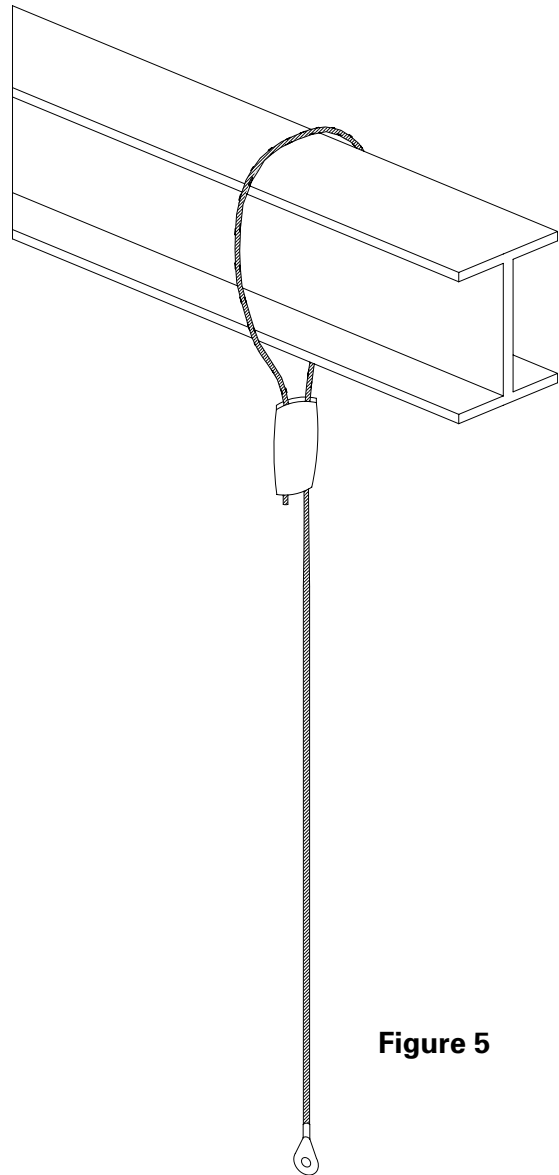

Figure 5
4. Adjust the cable length in the clamp so that the eyelet end of the cable is at the final height above the floor. (Fig 5)